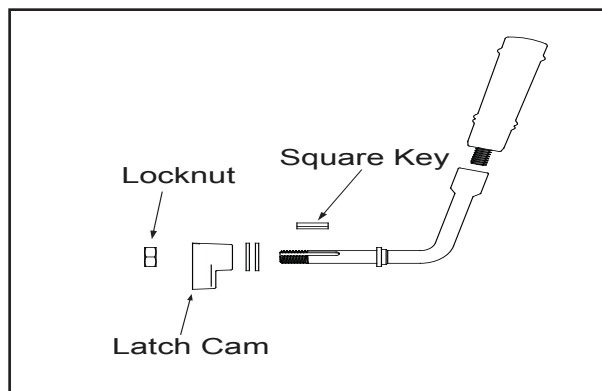

Figure 6.1
2. Install washer(s) as shown in **Figure 6.1**.